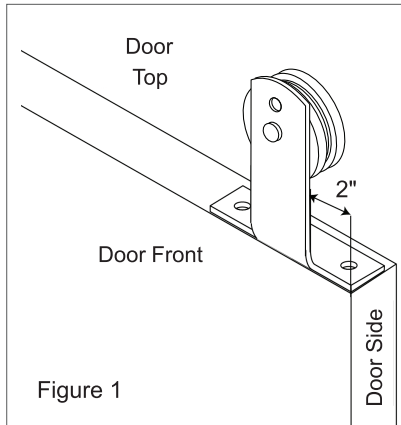

Figure 1
1. Place the hanger on the top edge surface of the door, with the vertical front of the hanger 2" from the edge of the door side and flush with the door front. Ensure the front of the hanger and the front of the door are facing the same direction (Figure 1).
1. To determine where the track should be installed, first measure the height of the door, then add 2-1/8" to the door height. 1/2" (a) will be for the clearance between the bottom edge of the door and the floor. 1-5/8" (b) will be from the top edge of the door to the center of the track. (Figure 1).